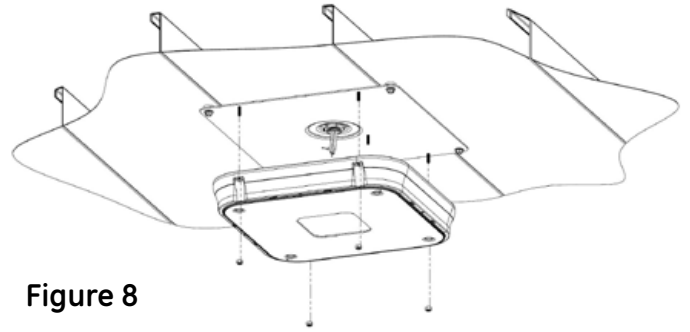

Figure 8
- Mount fixture to backplate using the threaded studs on the backplate and the provided hex nuts as shown in figure 8.